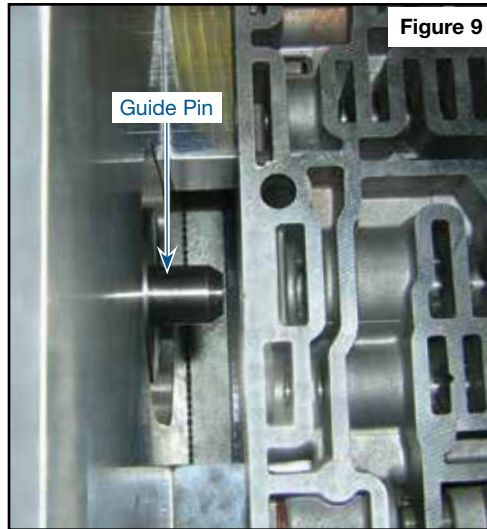

Figure 9
- e. Align valve/pump body so guide pin fits fully into the valve bore; leave wing nuts on fixture loose (Figure 9).